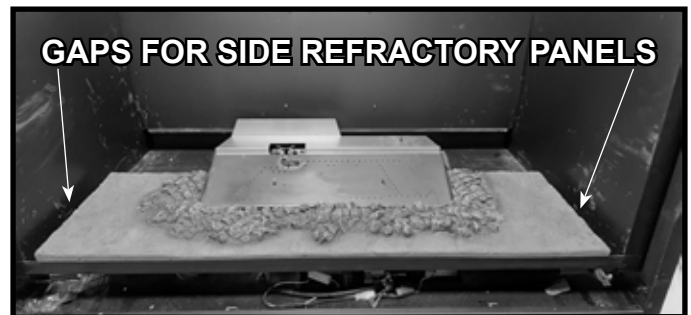
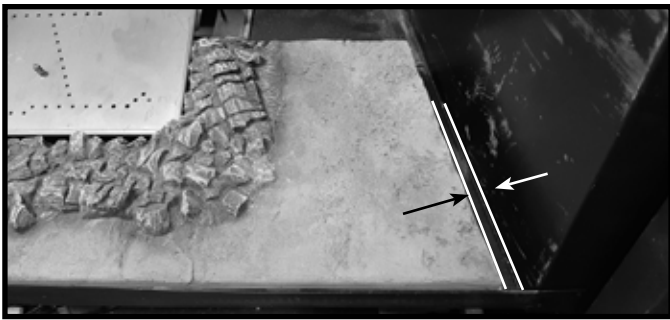

Figure 2 Base Refractory Installed
Figure 3 Side Gap
3. Install base into firebox. Base refractory will fit around burner as shown in Figure 2. There will be a gap between the side of the firebox and the base refractory as noted in Figure 2 and Figure 3. The gap allows for proper fit of the side refractory. The front edge of the refractory is positioned flush with the firebox return bend as indicated in Figure 5.